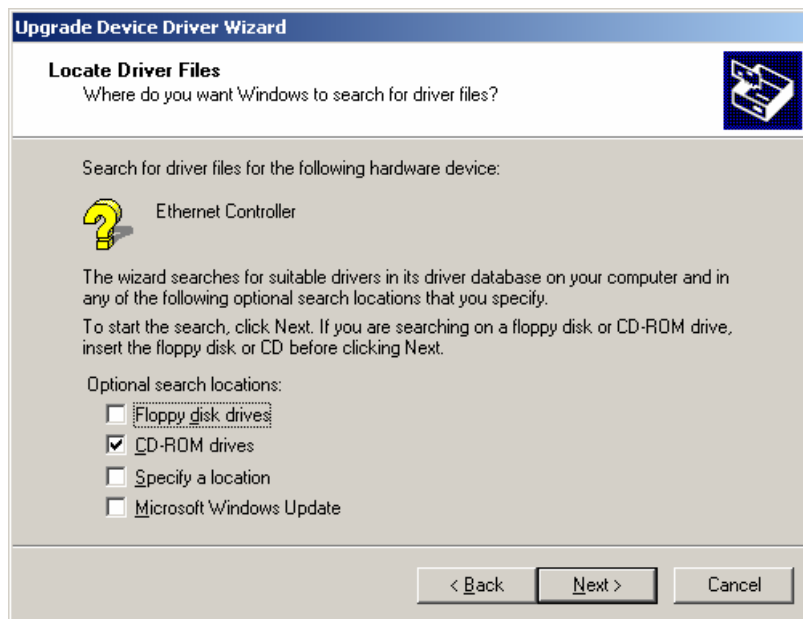

Figure 2-30 [Locate Driver Files] dialog box
- 7) In the [Locate Driver Files] dialog box, select [CD-ROM drivers] in the [Optional disk locations] area. Insert the network adapter driver CD into the CD-ROM drive. Click <Next> to continue. See Figure 2-30.